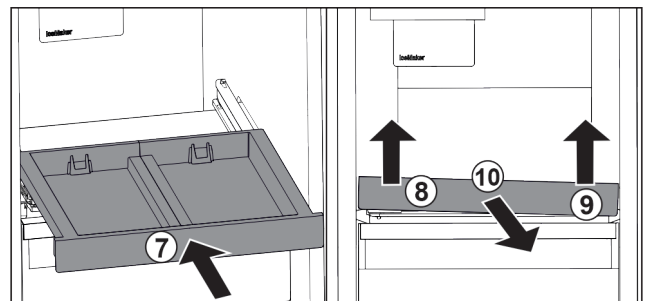

Fig. 86
- ▶ Slide in the pull-out board. Fig. 86 (7)
- ▶ Lift the pull-out board at the front left. Fig. 86 (8)
- ▶ Lift the pull-out board at the front right. Fig. 86 (9)
- ▶ Take out the pull-out board to the front. Fig. 86 (10)